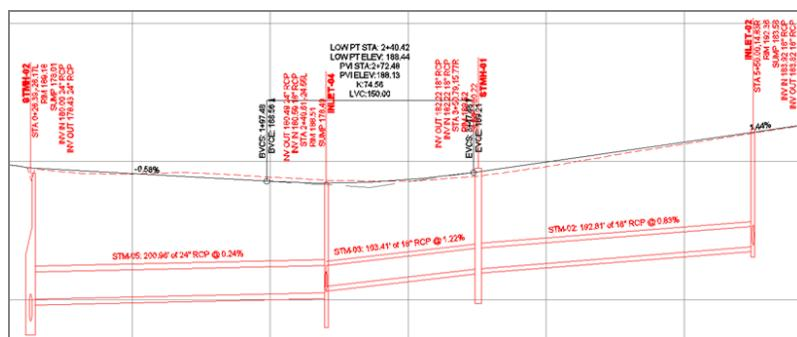
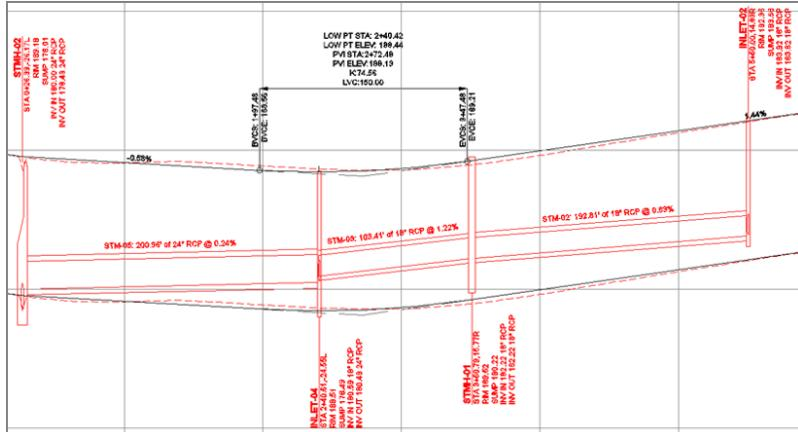

FIGURE 16.12 The initial placement of pipe network labels in profile view.
FIGURE 16.13 Pipe network labels in profile view that have been edited to improve readability
7. Click the three pipes in the profile view to place a label above each one. The drawing should now look like Figure 16.12.
With the label edits you have made, the annotation of the pipe network in profile view has been greatly improved. Compare the result in Figure 16.13 with the initial placement of the labels in Figure 16.12.